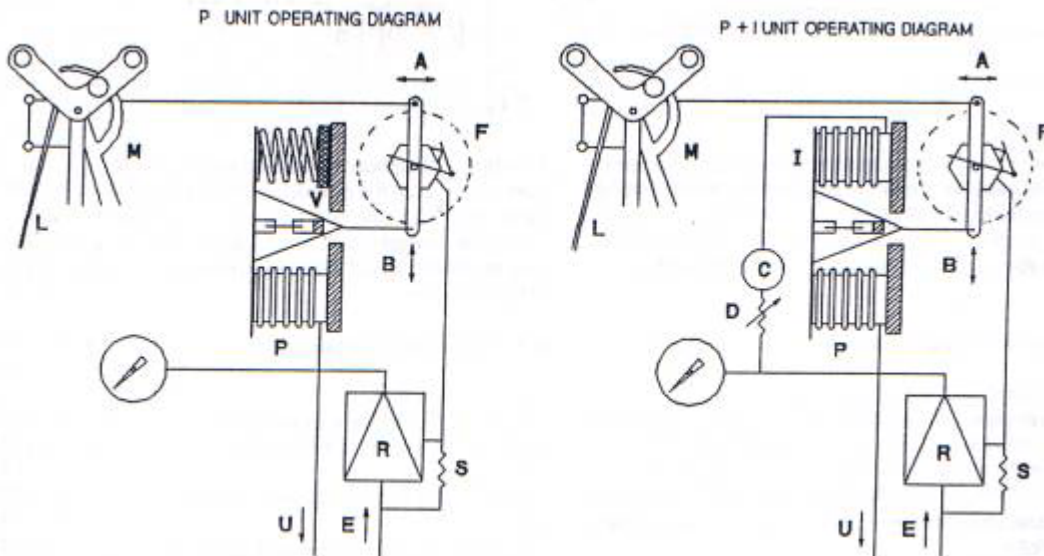

Figure 2. P and P+I unit operating diagram
#### 3.1 - Operation Description (refer to fig. 2)
- a-** Set the auto/manual switch to the manual position (M).
- g** Observe the balance detector. When the ball in the balance indicator is centred, turn the switch in automatic position (A).
**Note 1:** *If the controller doesn't have integral action there may be an offset between the process pointer or pen and set pointer. This offset will be reduced with the final adjustment described later and may be eliminated completely by adjusting the pre-load of proportional spring (see fig. 2).*